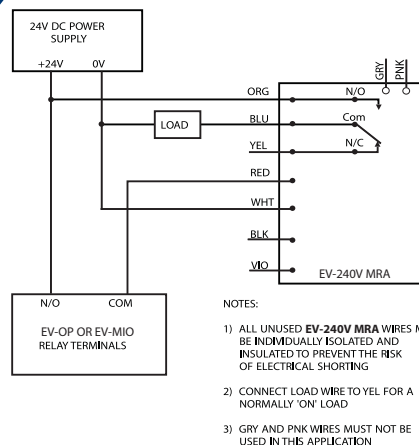

Fig. 2 EV-240V MRA in 24V dc Application
- 4) For typical wiring configuration, see Figures 2 to 6.